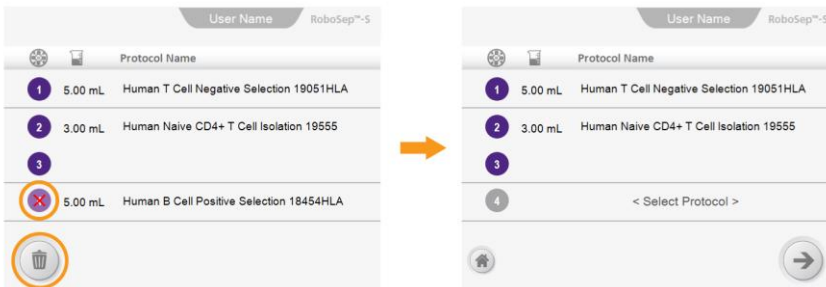

Figure 20. Removing a Protocol from an Assigned Quadrant
*Note: To remove a protocol from an assigned quadrant, select the quadrant number icon on the Run Samples screen. An **X** will appear on the quadrant number icon (Figure 20). Select  [Delete] to remove the selected protocol from the assigned quadrant. Any combination of quadrants can be selected in this manner.*